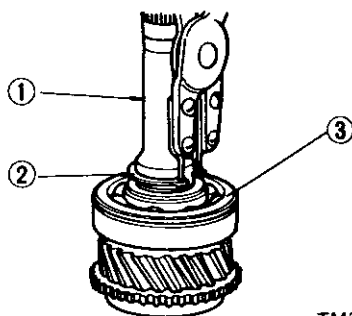

Fig. MT-34 Installing snap ring
2. Place main drive bearing spacer on main drive bearing and secure main drive bearing with thicker snap ring that will eliminate end play. See Figure MT-34.